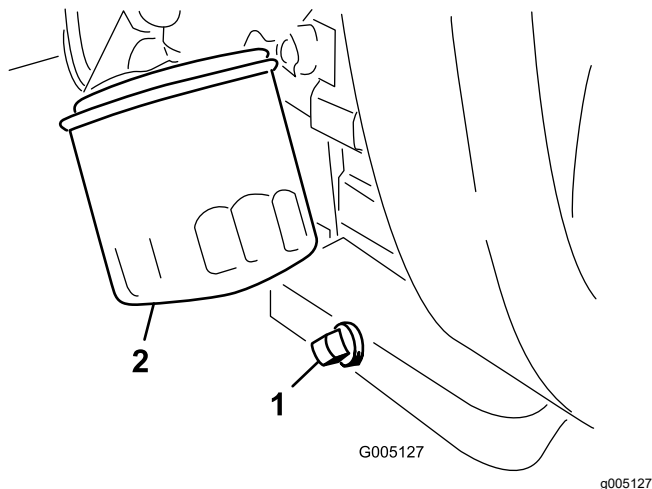

Figure 34
1. Remove the drain plug (Figure 34) and let the oil flow into a drain pan.
2. Clean the threads of the drain plug, apply PTFE sealant, and install the drain plug (Figure 34).
3. Remove the oil filter (Figure 34).